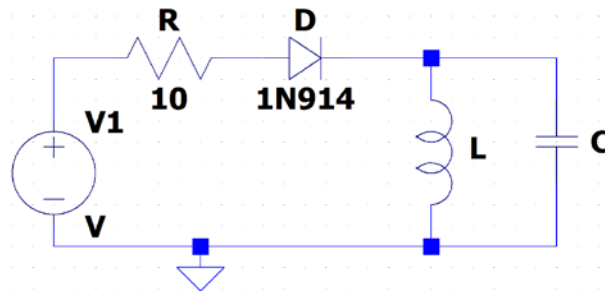

Figure B-1. Note: the signal generator on the M2k has a 50Ω output resistance.
Using LC circuits to estimate inductance: Now we will use a different experimental method to estimate the coil inductance. In the circuit of Figure B-1, V1 is the M2K Signal Generator. R is a resistor added to both limit and measure the current from the signal generator. L is the inductance of the coil to be measured. C is a known capacitor chosen to make L easy to determine. D is a diode used to direct current toward the inductor and to shut off current when the source voltage goes negative so that the inductor can send its energy to the capacitor.
- Set up the circuit in Figure B-1 on your Protoboard, but be sure that you include the 10Ω current limiting resistor R . Use the capacitor value and your DIY inductor. Use the 1N914 diodes in your parts kit (don't lose it, you will need all four later in the course). Be careful to make sure that the inductor is making contact with the protoboard. Bad connections can be a common problem.